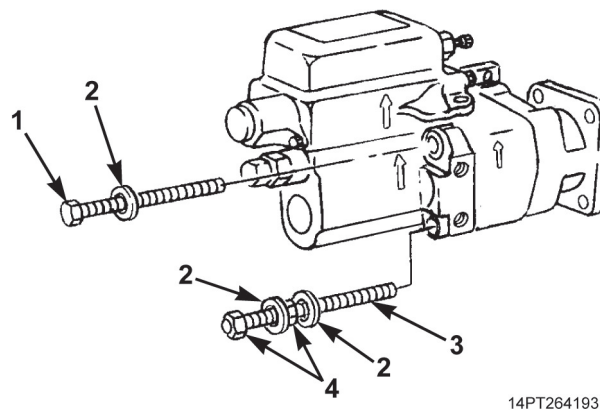

Figure 2. Pump Hardware Removal.
2. Secure hydraulic pump in vise and remove three screws (Figure 2, Item 1), two nuts (Figure 2, Item 4), and five washers (Figure 2, Item 2) securing pump housings.
3. Remove stud (Figure 2, Item 3).